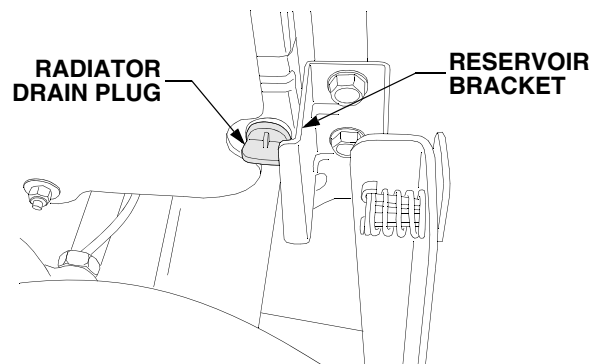

Figure 55
- Locate the radiator drain plug in the lower *right* rear corner of the radiator. See Figure 55.